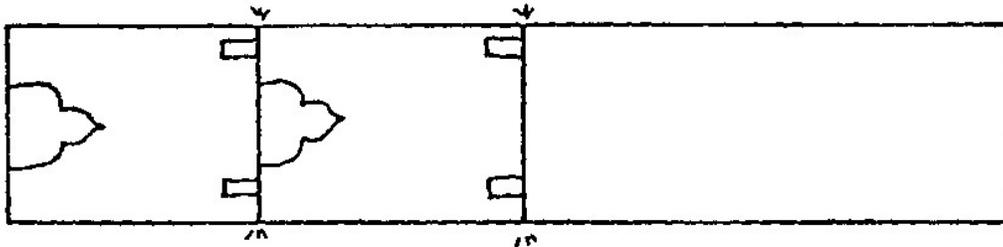

Figure 12.
1. Cut the 6' long 1x12" board into three pieces: one 36" long (for the seat of the bench) and two 16" long (for the legs). See Figure 12.